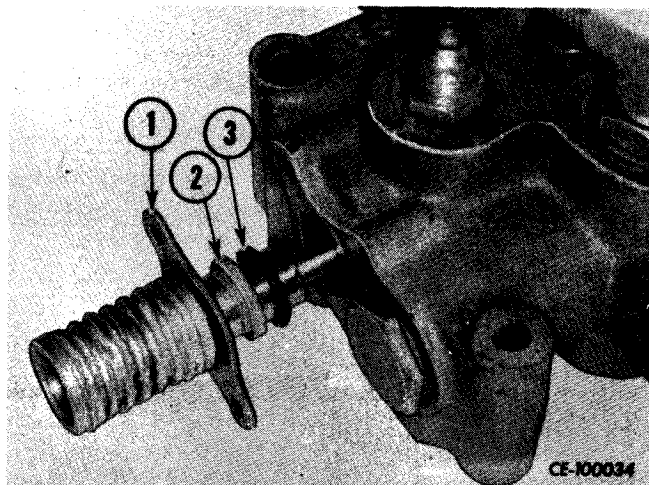

Figure 11-13
Pull valve spool assembly (1, Fig. 11-13), wiper (2) and "O" ring (3) out of control valve.